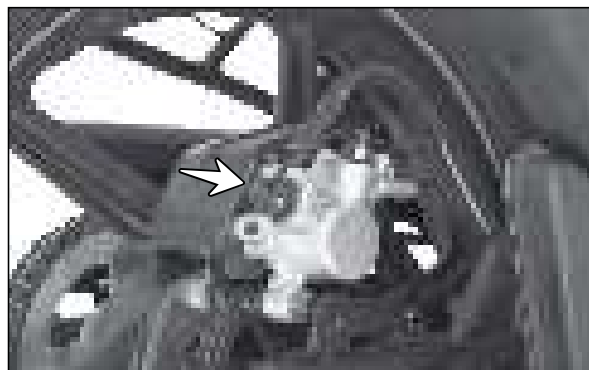

Fig. 6.118
- Remove the banjo bolt and take out the gaskets. (Fig. 6.118)